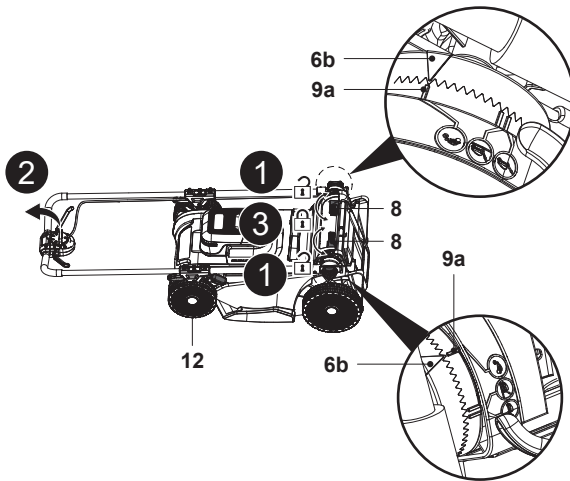

Fig. 23
1. Switch the machine off and remove the battery pack (24) before storage.
- Remove the grass catcher (7) / mulching insert (23).
- Set the lever for cutting height adjustment (12) to the lowest position.
- Loosen two clamp levers (8), then completely fold the handle assembly (Fig. 23, steps 1, 2).
- Secure the connections by locking the two clamp levers (8) and ensure that the indicating triangle (6b) is aligned with parking indicator (9a) to avoid scattering (Fig. 23, step 3).